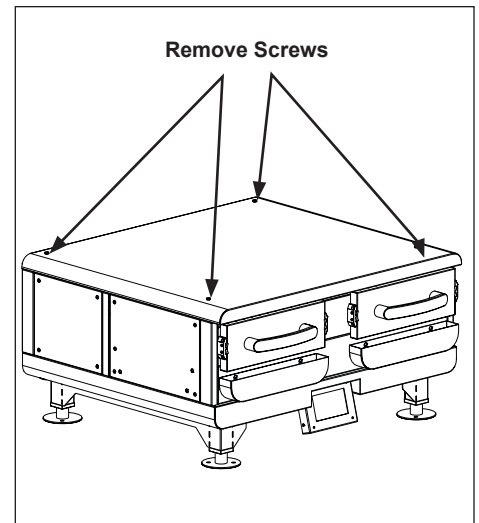

Figure 6. Remove Top Cover Screws of Bottom Unit
2. Locate and remove the four (4) screws on the top cover of the bottom steamer. Set aside for later use. (Figure 6)
6. Align the screw holes of all four (4) feet and holes in the top of the base steamer. Using a screwdriver put the original screws from the first steamer back in place.